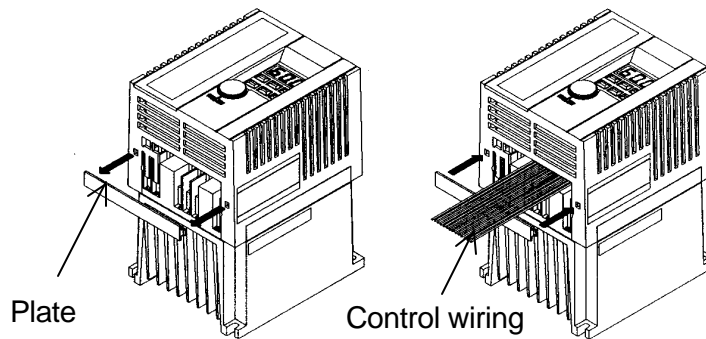

Figure 2-3-8 How to pull out the control wiring
(5) Remove the plate at the bottom of the surface cover before performing drive control wiring and reinstall it after the wiring as shown in Figure 2-3-8.